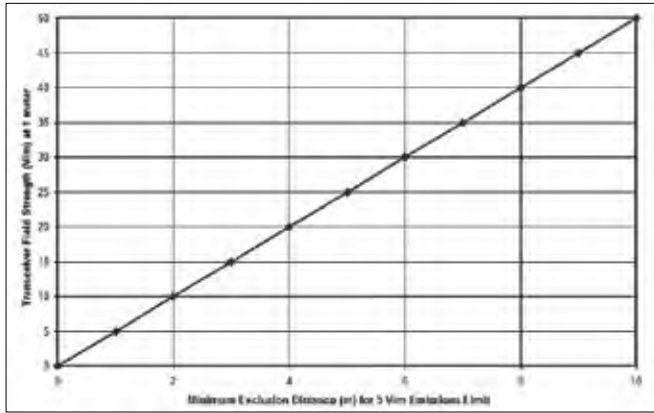

Figure 1. Recommended minimum exclusion distance (in meters) as a function of transceiver field strength (V/m) at 1 meter. (EPRI TR-102323 (1997) Revision 1).
2. Referring to Figure 1 (Figure 6-1 in EPRI TR-102323 Rev. 1), determine the minimum transceiver exclusion distance corresponding to the calculated transceiver field strength at 1 meter.